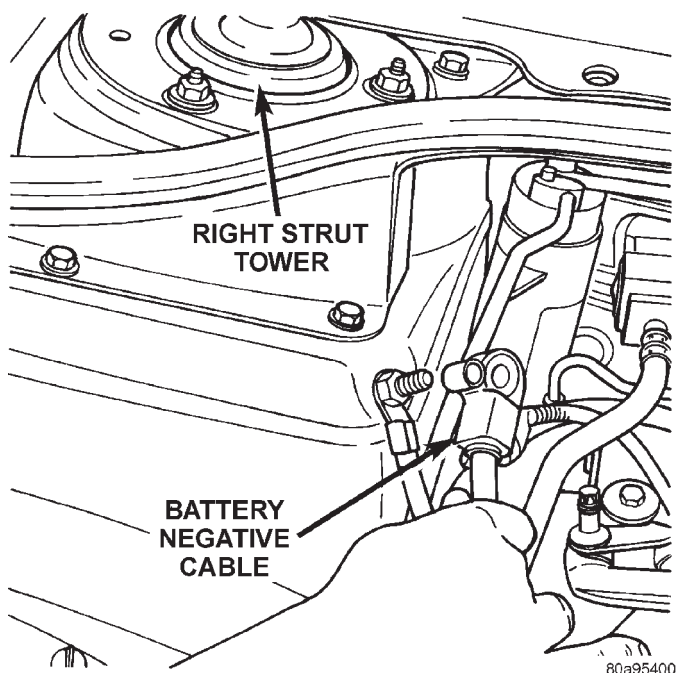
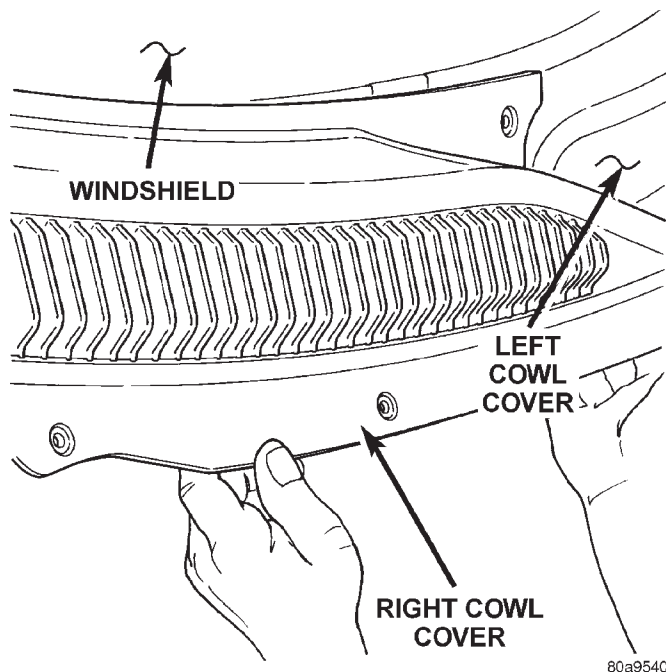

Fig. 27 Negative Cable—Disconnect
Fig. 28 Cowl Covers
- (1) Disconnect negative cable at right strut tower (Fig. 27).
- (2) Mark hood position at hinges and remove hood.
- (3) Remove both wiper arms.
- (4) Remove both cowl covers (Fig. 28).